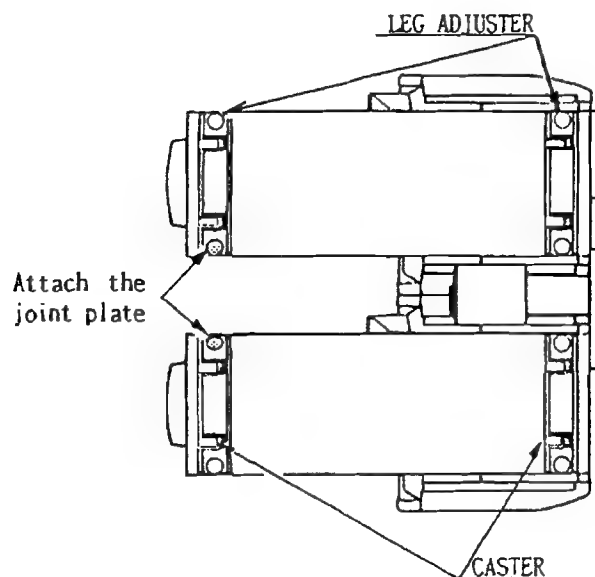
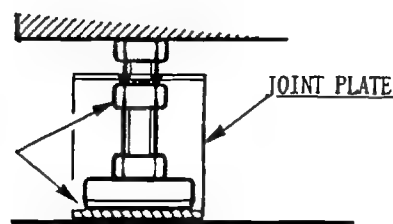

FIGURE 7: CABINET, BOTTOM VIEW
FIGURE 8: LEG LEVELERS, BOTTOM VIEW
2. Adjust the six outboard leg levelers (see Figure 7) on the cabinet by hand so they all make contact with the floor. Continue to adjust levelers until the machine is level and the casters are approximately 5 mm off of the floor (see Figure 8). If the casters are less than 5 mm off of the floor, the game may move during operation and become dangerous.
4. Attach the red joint plate (shipped in Crate 3) to the cabinet's two inner leg levelers (see Figures 7 and 10). Slide the notches in the joint plate over the levelers.
5. Adjust the two inner leg levelers (see Figure 7) on the cabinet by hand so they both make contact with the floor. Continue to adjust levelers until the machine is level and the casters are approximately 5 mm off of the floor (see Figure 8). If the casters are less than 5 mm off of the floor, the game may move during operation and become dangerous.